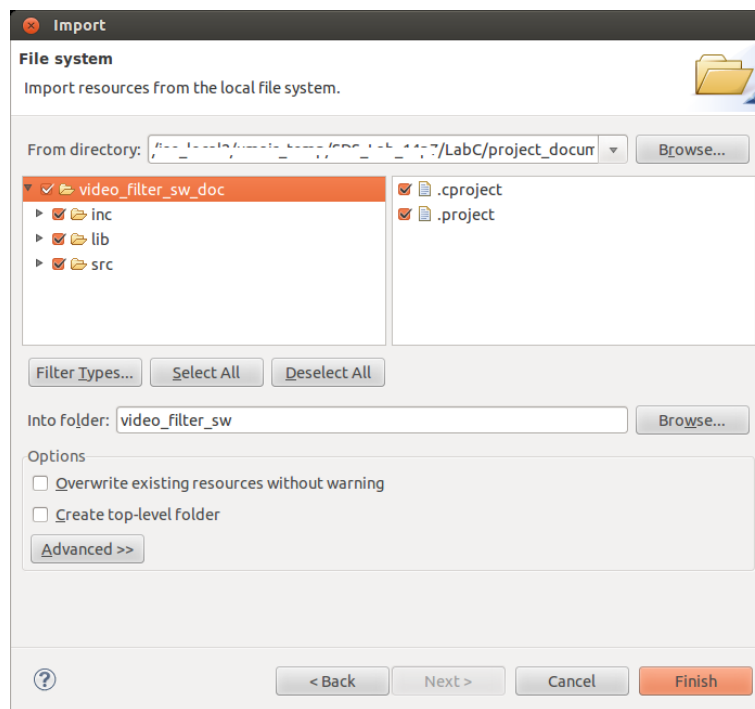

Figure 1.10.: Importing the source application and driver files for software application.
6. Now we will add the software application and driver files into the project, by right-click on *video_filter_sw*>*Import...*. In the *Import* window, expand General, select File System, click *Next*. On *From directory*, click *Browse...* and point to video_filter_sw_doc directory under project_documents. The directories under video_filter_sw_doc can be seen as in Figure 1.10. Select all three sub-directories (/src, /inc, and /lib). Click *Finish* to add those to the project.